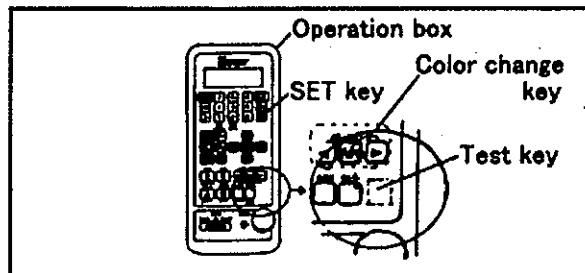

FIG.3
- (2) Press the TEST key once to change the next step (Fig.3).